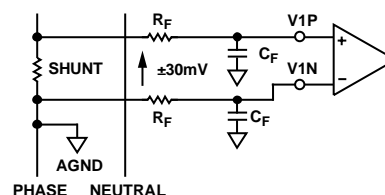

Figure 19. Typical Connection for Channel V1
Figure 19 shows a typical connection diagram for Channel V1. A shunt is the current sensor selected for this example because of its low cost compared to other current sensors, such as the current transformer (CT). This IC is ideal for low current meters.